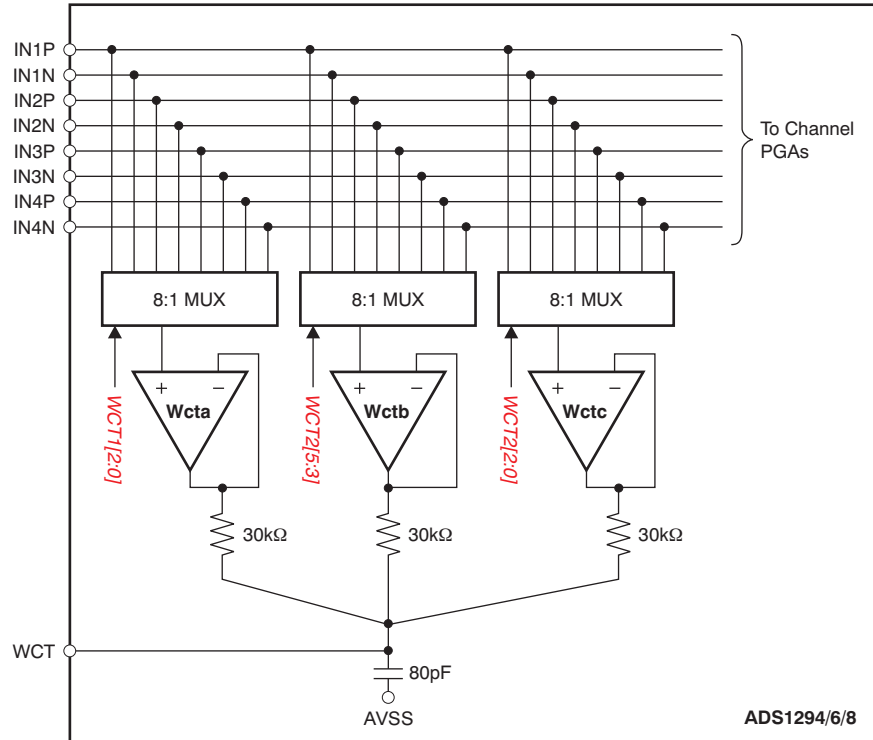

Figure 53. WCT Voltage
In the standard 12-lead ECG, WCT voltage is defined as the average of Right Arm (RA), Left Arm (LA), and Left Leg (LL) electrodes. This voltage is used as the reference voltage for the measurement of the chest leads. The ADS129x has three integrated low-noise amplifiers that generate the WCT voltage. Figure 53 shows the block diagram of the implementation.